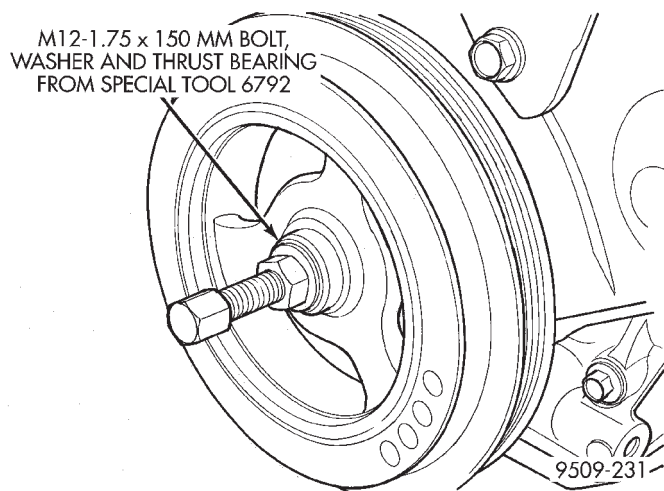

Fig. 74 Crankshaft Damper—Installation
(4) Install timing belt and covers. Refer to Timing Belt System in this section for installation.
(5) Install crankshaft damper (Fig. 74). Use thrust bearing/washer and 12M-1.75 x 150 mm bolt from Special Tool 6792. Install crankshaft damper bolt and tighten to 142 N·m (105 ft. lbs.)